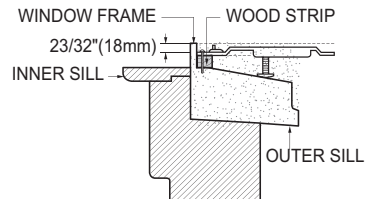

FIG. 12
- \* Dimensions and geometry of windows are different according to manufacturer's. Check your window and refer to FIG.12 to install the support bracket firmly.